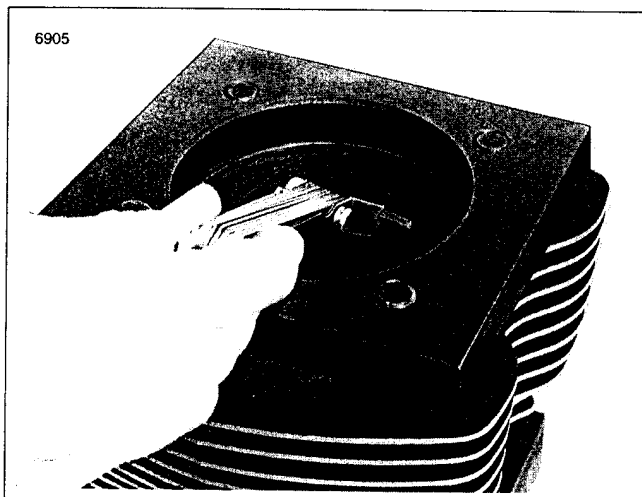

Figure 3-118. Measure Ring Gap
1. See Figure 3-118. Check ring gap before placing each ring on the piston. Insert the **new** ring into the cylinder and square it in the bore using the top of the piston. Measure the ring gap with a feeler gauge. Do not use the ring if the end gap does not fall within the specifications listed in Table 3-7.